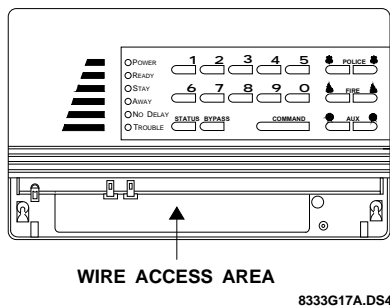

Figure 5. Panel Wire Access Area
- 1) Drill holes for the necessary wire runs in the wall, at the back of the wire access area (see Figure 5).